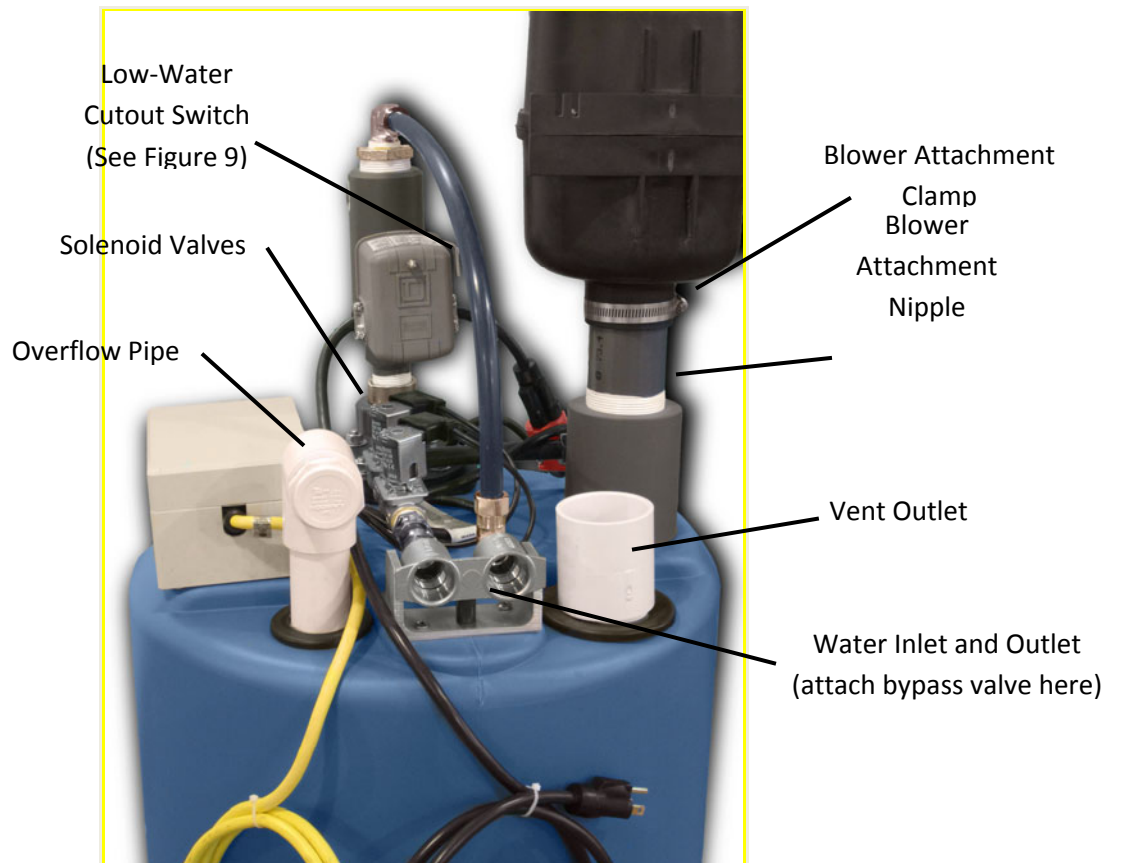

Figure 4 - Installation Points
This valve has a black handle, and is located near the back of the unit. See Fig. 4. The valve has two positions:
2. In case of a malfunction, the unit could overflow. The Windsor is fitted with an overflow pipe. (The overflow pipe is mounted near the rear of the unit. See Fig. 4) Take this into account when positioning the unit. It is best if the unit can be positioned near a drain or sump pit with a sump pump.
8. Pour one ounce of bleach into the blower attachment nipple to disinfect the unit. See Fig. 4 for location of blower attachment nipple.
9. Firmly slip the blower onto the blower attachment nipple and tighten clamp in order to secure blower to nipple. See Fig. 4.
17. Install the blower. Firmly slip the blower onto the blower attachment nipple and clamp it. See Fig. 4.